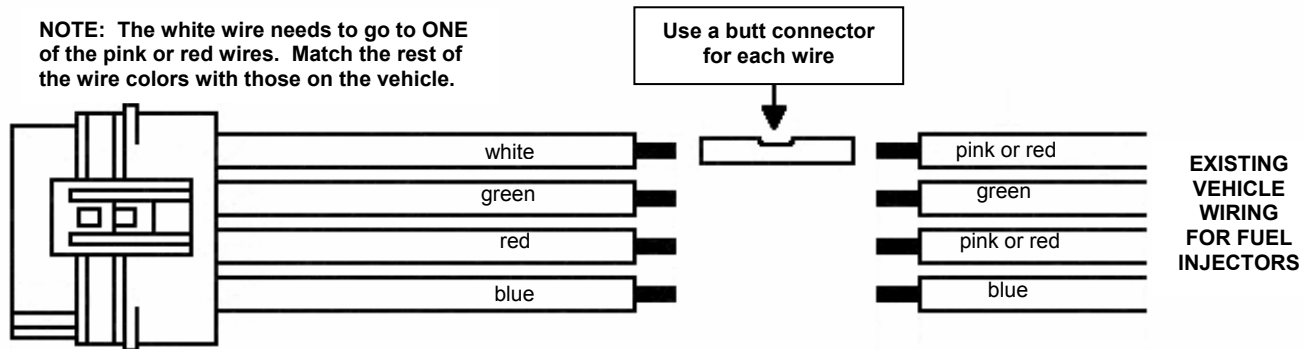

Figure 3
4. Cut the (4) injector wires about 12" from the factory injector connectors. Strip 1/4" of the insulation from the wires left on the vehicle. Connect these to the wires on the harness adapter assembly by using the butt connectors provided. The white wire needs to go to ONE of the pink, red, or white wires. MATCH the remaining wire colors with those on the vehicle. Push the connector with wires into the mating connector on the throttle body. See Figure 3.
5. Cut the (4) injector wires about 12" from the factory injector connectors. Strip 1/4" of the insulation from the wires left on the vehicle. Connect these to the wires on the harness adapter assembly by using the butt connectors provided. MATCH the wire colors with those on the vehicle. Push the connector with wires into the mating connector on the throttle body.